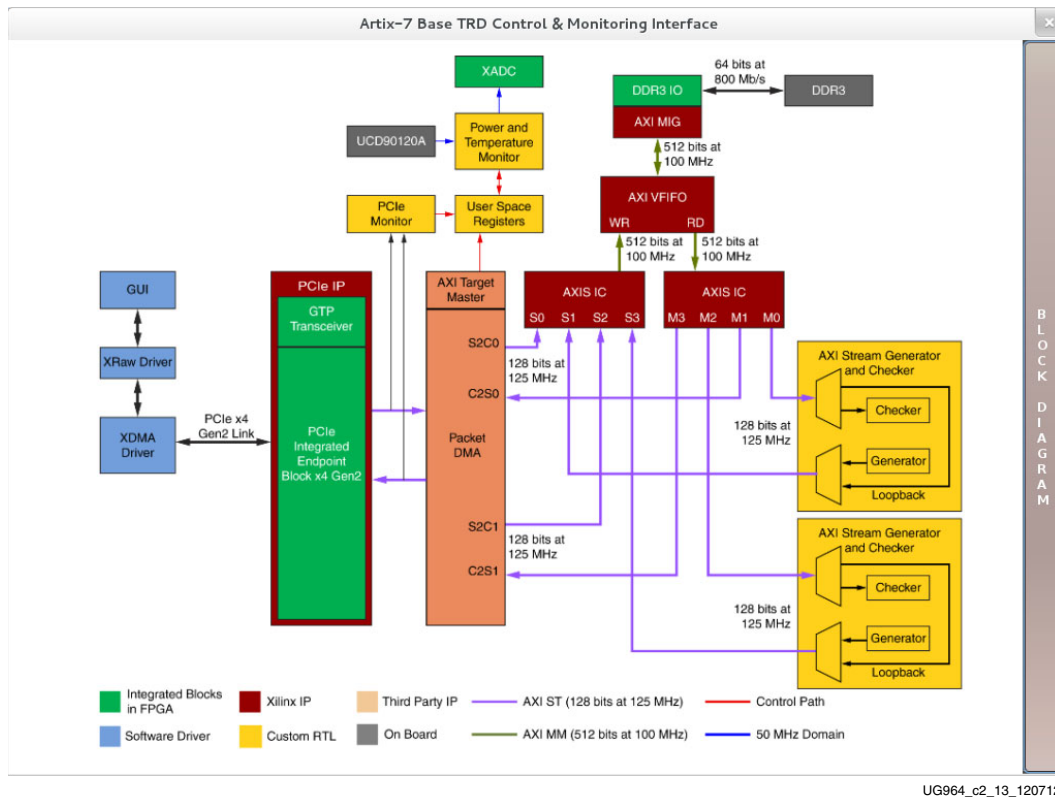

Figure 2-13: Design Block Diagram
12. User can click the **Block Diagram** option to view the design block diagram as shown in Figure 2-13.